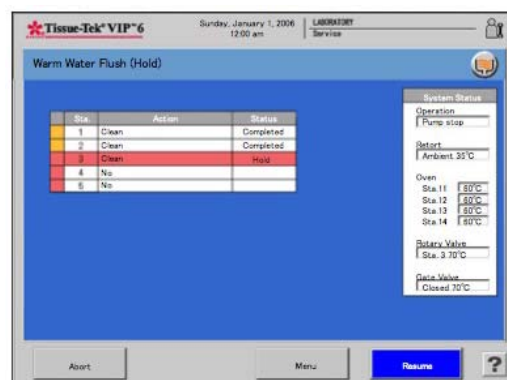

Figure 4-V
- The Warm Water Flush screen is displayed (Figure 4-V).